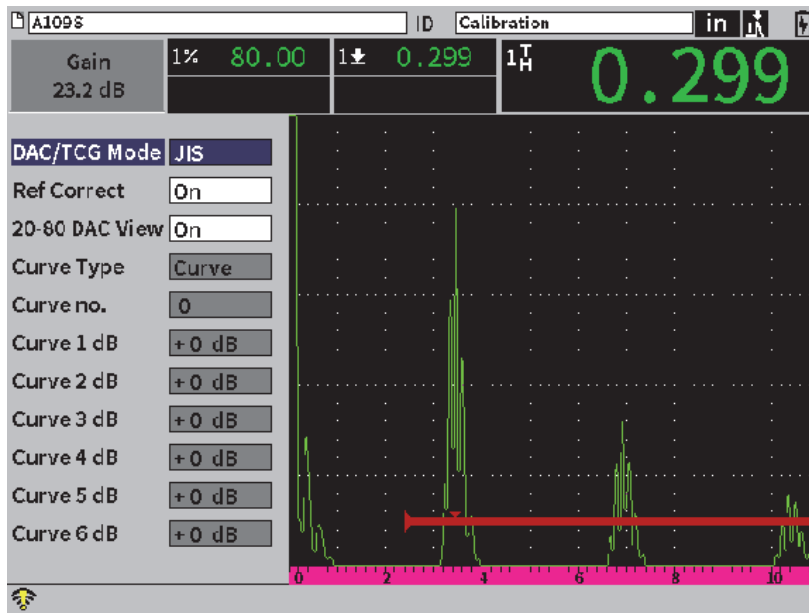

Figure 11-15 JIS mode
- In the DAC/TCG dialog box, turn the adjustment knob to set the **DAC/TCG Mode** to **JIS** (see Figure 11-15 on page 189).